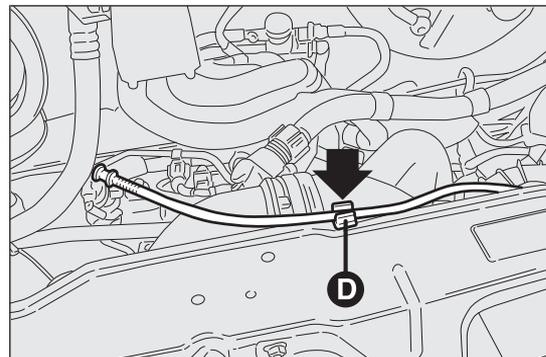
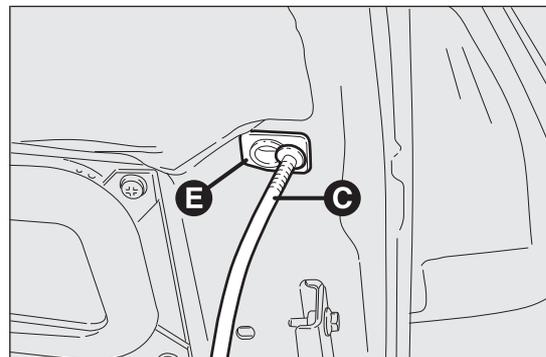

fig. 128
fig. 129
- lift the bonnet and, at the same time, release the bonnet stay fig. 128 from its locking device D, then insert the end fig. 129 of the bonnet stay into the housing E.
- hold the bonnet up with one hand and with the other remove the stay C fig. 129 from the housing E and fit it back in its locking device D fig. 128;